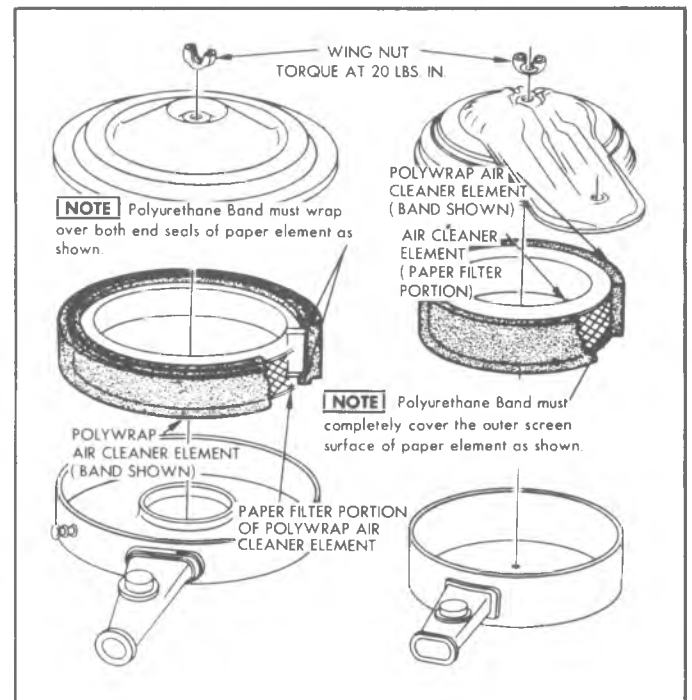

Fig. 9A—Installing the Polyurethane Band
5. Install the polyurethane band around the outer surface of the paper filter (Fig. 9A).